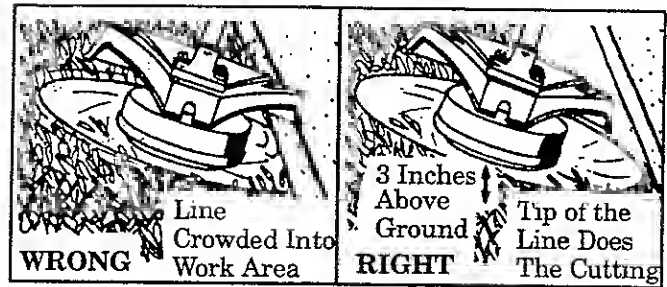

Figure 12
- **The tip of the line does the cutting.** You will achieve the best performance and minimum line wear by not crowding line into cutting area. The right and wrong ways are shown in Figure 12.